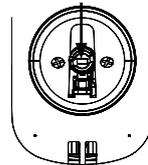

Figure 7
7. Install inside escutcheon on inside mounting plate. Note the horizontal orientation of the tail - piece (Fig. 7) as you insert the inside escutcheon (thumbturn should be vertical).